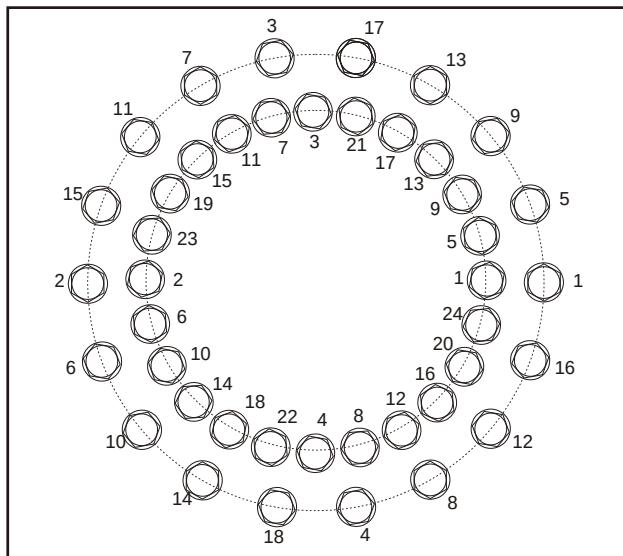

Figure 3-50. Swing Bearing Torque Sequence
2. Line up high spot (blue) of bearing with center tooth of worm gear. Set backlash to 0.008 - 0.010 inch (0.20 - 0.25 mm). Tighten capscrews as shown in Figure 3-50., Swing Bearing Torque Sequence.
7. Tighten bolts to an initial torque of 130 ft-lb (176 Nm) following torque sequence shown in Figure 3-50., Swing Bearing Torque Sequence. Tighten to a final torque of 190 ft-lb (257 Nm) following same sequence.